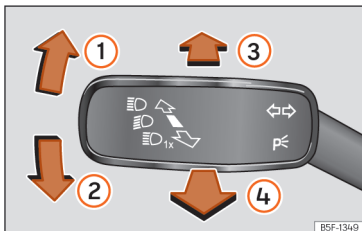

Fig. 102 Turn signal and main beam lever.
- From the base position, press the turn signal and main beam headlights lever forwards >>> Fig. 102 .
- **EITHER:** if main beam assist is on, pull the turn signal light and main beam headlights lever back >>> Fig. 102 .